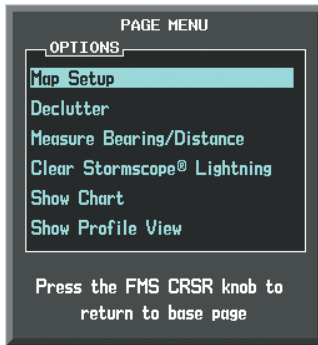

Figure 6-174 Navigation Map Page Menu
- 3) With Map Setup highlighted, press the **ENT** Key (Figure 6-174).